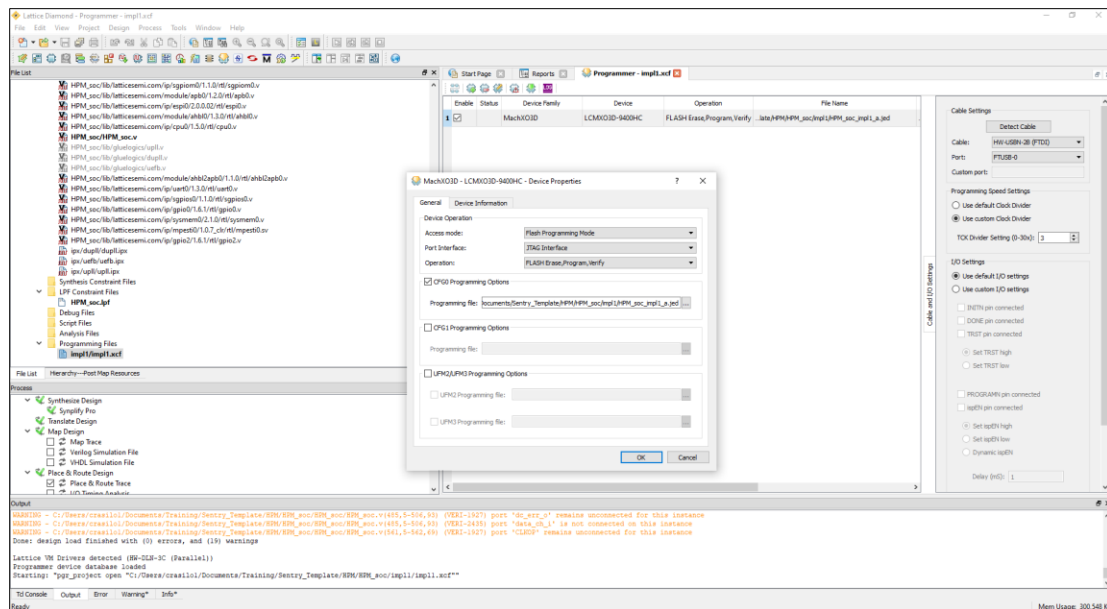
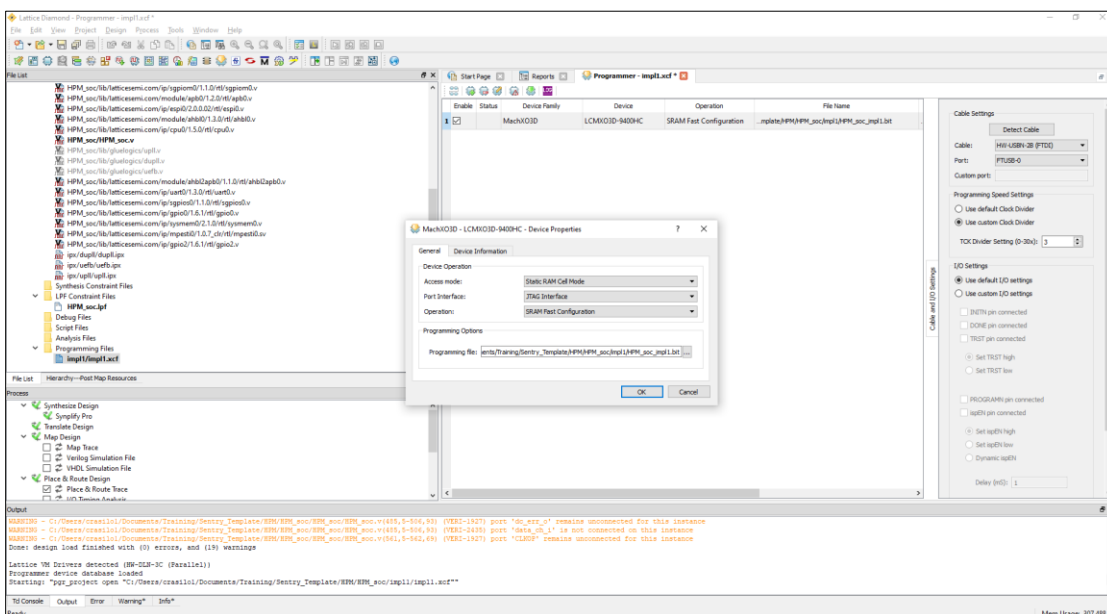

Figure 5.12. JED File Upload Using Flash Programming Mode (HPM)
Figure 5.13. BIT File Upload Using Static RAM Cell Mode (HPM)
- Using Diamond Programmer, upload either the JED or BIT file using either Flash Programming Mode or Static RAM Cell Mode, as shown in Figure 5.12 and Figure 5.13 respectively. Note that the template comes with a pre-exported JED and BIT files. If any changes are made in the design, it is recommended that you export a new JED or BIT file.